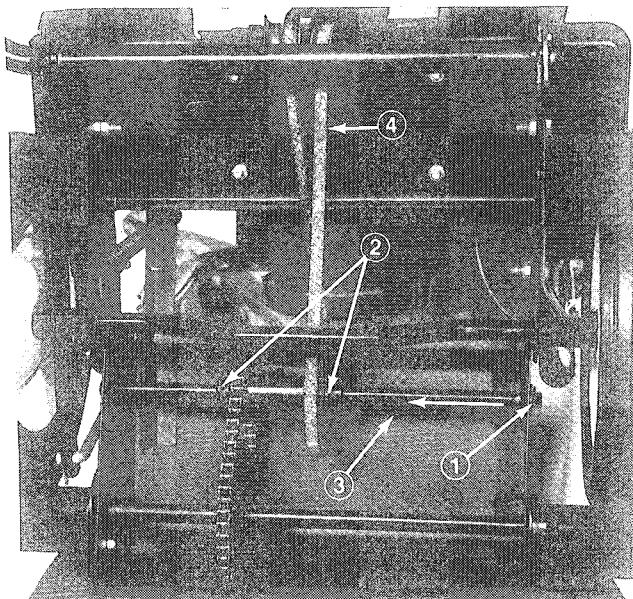

Figure 27
10. Refer to Figure 27. Tip the unit back onto the handles. ① Remove the cotter pin from the end of the shaft, loosen the setscrew in each of the collars, ② and tap the shaft over far enough ③ so the new belt can be installed. ④
**IMPORTANT:** The belt must be installed as shown in Figure 27 or the traction drive will run backward.